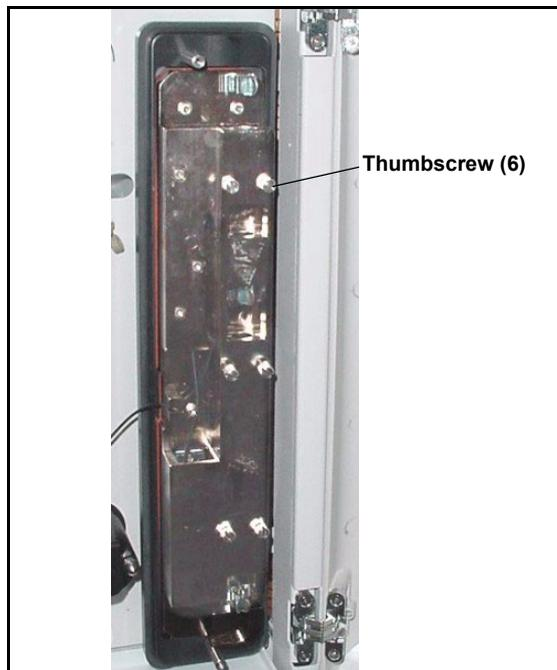

Figure B-18. ICS-2000 Column Heater Cover Removed
4. Unscrew the six thumbscrews on the top metal plate (see Figure B-18) and remove the plate.